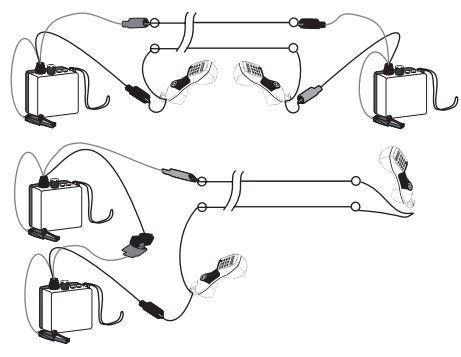

Figure 2. Supplying Talk Power
Connect the test leads in series with a telephone test set (buttset) and the inactive wire pair (Figure 2). Move the toggle switch to the SHORT position to supply the “dead” line with talk power.
**Additional test sets may be added, in series (red clip to black clip), to increase talk power supply when needed (Figure 2).**